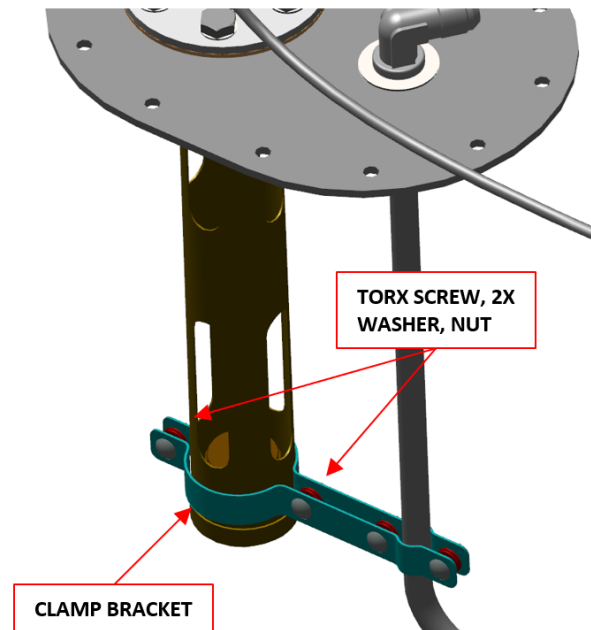

Figure 9 – Clamp bracket and hardware.
5. Remove fuel level sensor, Figure 9: